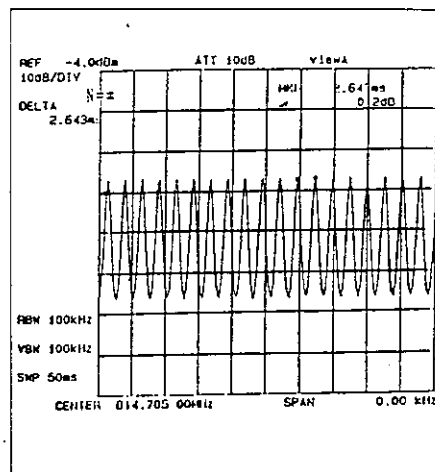

Figure 5-20 Finding the Time Interval  $T(s)$  of the Demodulated Wave Peak
- ⑨ Set the  $\Delta$  marker on the adjacent peak (see Figure 5-20).